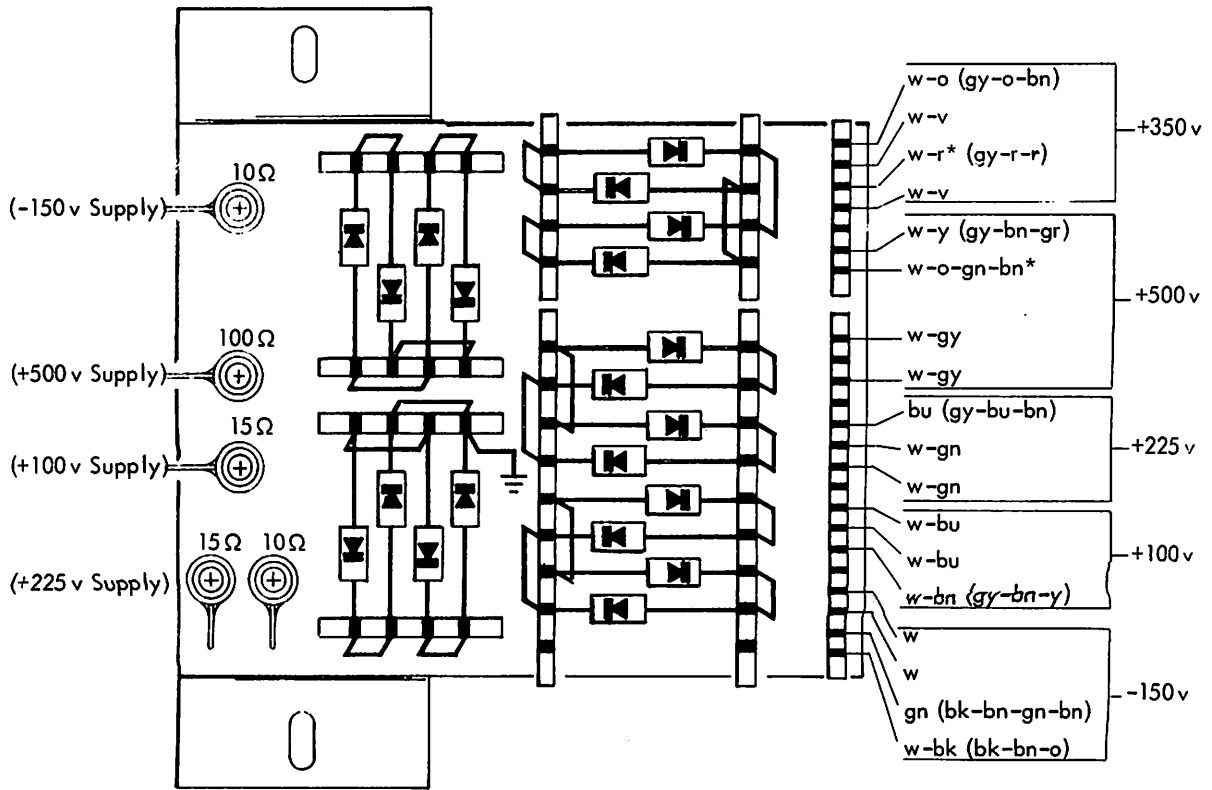

FIG. 5
- () 5. Solder all wires that were removed from the selenium rectifiers to the ceramic strips, as shown in Fig. 5.